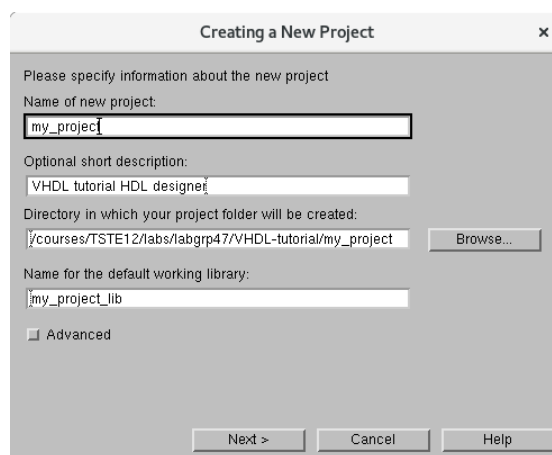

Figure 12 Project creation window
2. Add a name to your project. In this example we have used my_project. You may also enter a short description of your project. See Figure 12.